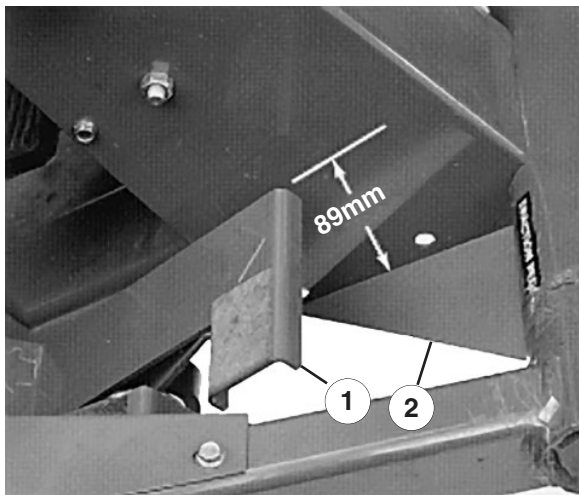
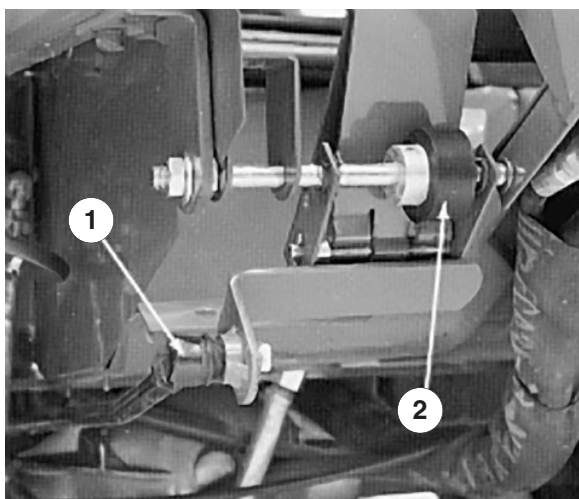

Figure 37
Figure 38
2. Press down on the front of the traction pedal and check travel. There should be approximately 89mm clearance between the end of the pedal and floor plate when the pedal is fully depressed (Fig. 37). Adjust the pump control rod (Fig. 38) to attain dimension.
1. Loosen the two nuts securing the traction pedal shaft on the right side of the pedal (Fig. 38).